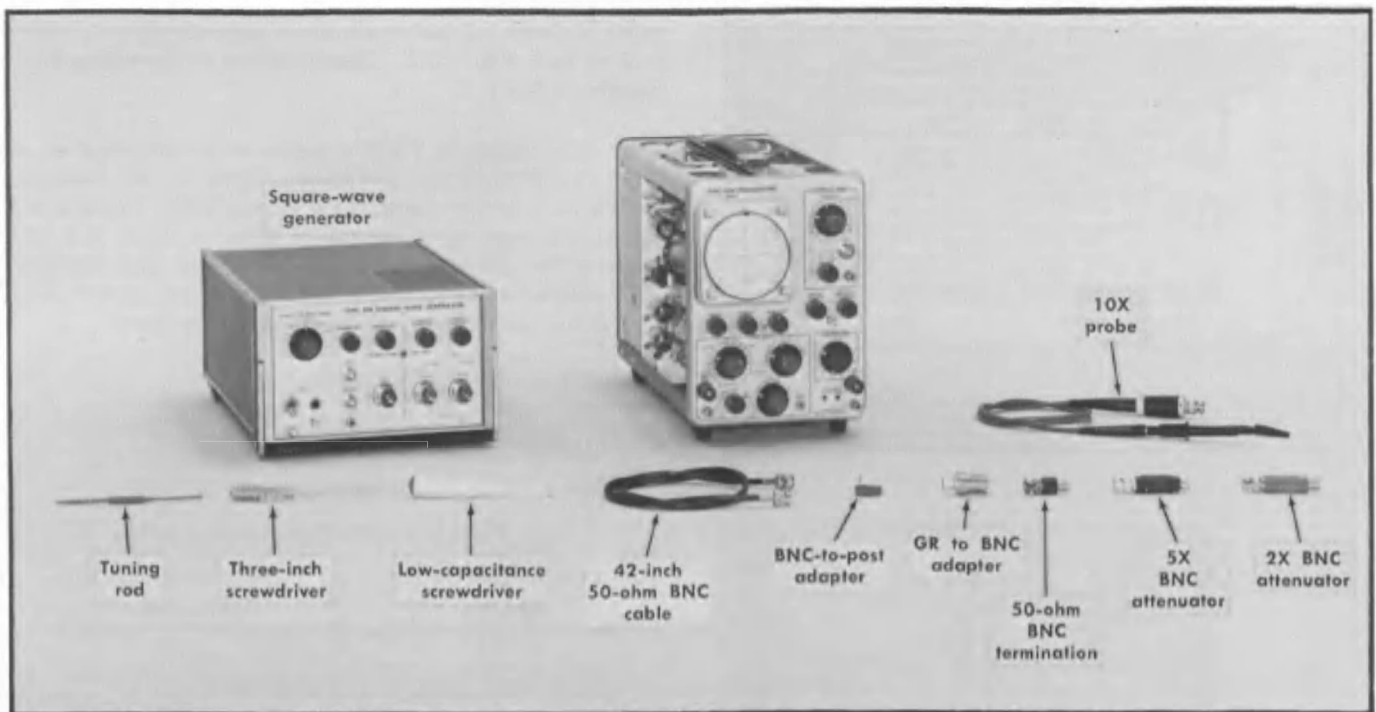

Fig. 5-11. Equipment required for steps 17 through 21.
This step is not applicable to a performance check. Proceed to next equipment required picture (Fig. 5-11).
a. Equipment required for steps 17 through 21 is shown in Fig. 5-11.